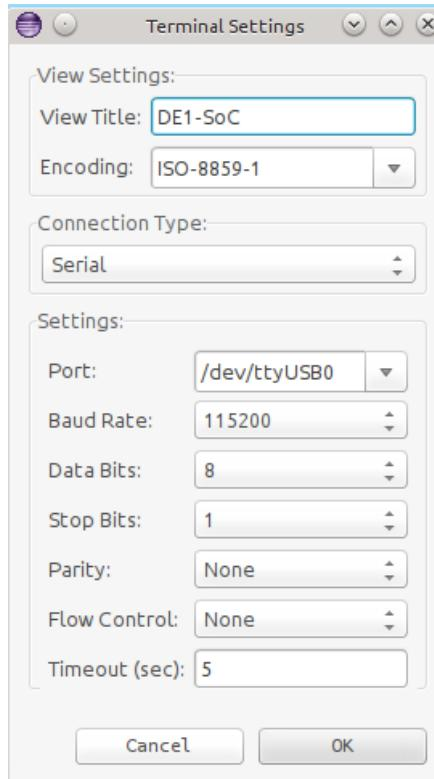

Figure 13-9. ARM DS-5 Serial Terminal Settings
67. Modify the serial terminal's settings to match those shown in Figure 13-9, then press “OK” to start the connection.